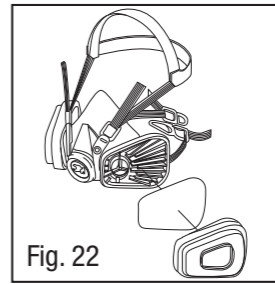

Fig. 22
- Place filter into 501 retainer with filter printing facing towards the 603 adaptor. Snap together and ensure the filter seal is free from creases or gaps (Fig. 22).